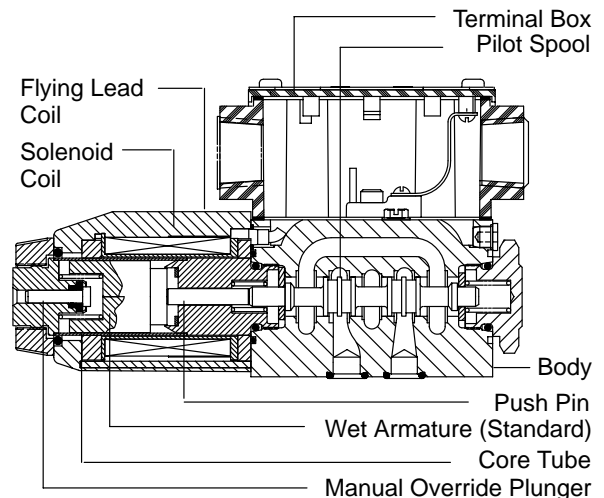

Figure 13a. Typical DG4V-3(S)-A/B-FW-60
C. Air Gap Solenoids: DG4S4-01 pilot valves are usually equipped with air gap solenoids. Air gap solenoids are isolated from system fluid and can be removed and replaced without disturbing the system. A push pin and sliding seal couple the solenoid to the valve spool (see Figures 13a and 13b).
F. Electrical Solenoid Ground Connections and Wiring Housing: An electrical wiring housing with a 1/2" NPTF thread connection is available on DG4V-3 and DG4S4-01 pilot valves. The wiring housing can be rotated 180° from the position shown in Figure 13a. Wire grounding screws are provided for convenience.
G. Manual Override: each solenoid (electrical or air type) has a manual override plunger to shift the pilot spool. This feature allows a technician to shift the pilot spool when electricity or air pressure is not available. Refer to Figures 13a or 13b. To operate the manual override feature, obtain a small rod and push in on the plunger.